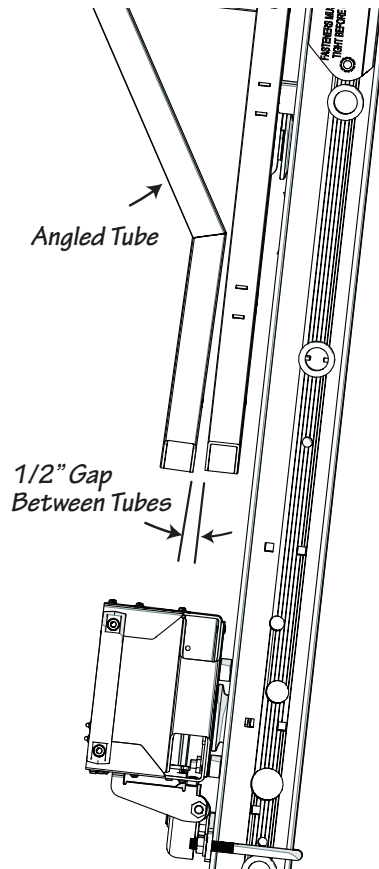

Fig. 13-1
- Using both hands grab the top (angled tube) Shown in Fig. 13-1.